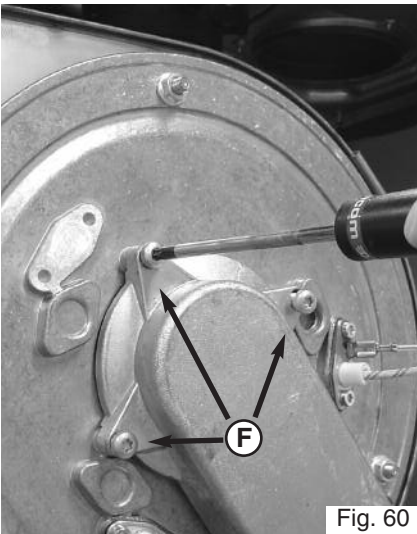

Fig. 60
2. Remove the 3 screws **F** from the air/gas manifold (Fig. 60);